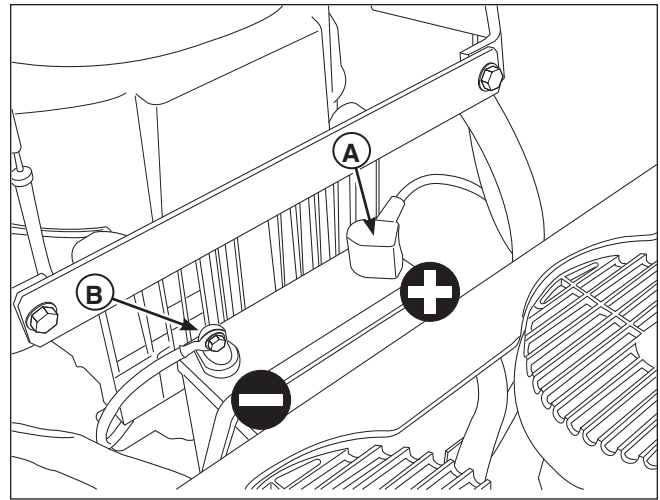

Figure 23. Battery Compartment
1. Disconnect the cables from the battery, negative (black) cable first (B, Figure 23).
3. Reinstall the battery and reattach the battery cables, positive (red) cable first (A).